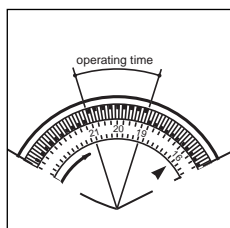

fig.3
- 1) Set the operating times by pushing out with your thumbnail to the outer rim, the notches on the dial corresponding to the period required (fig.3) (each notch represents 15 mins.)